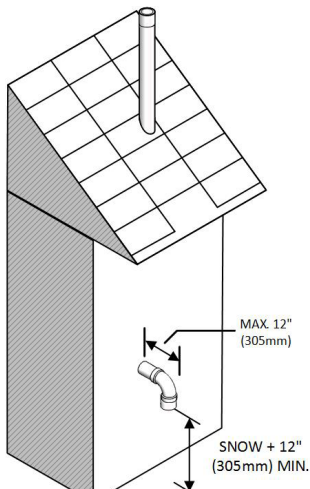

Figure 5a: Rooftop vent terminal configurations
- The air intake pipe may terminate on the side wall of the building as long as the air intake terminal is turned down and the side wall of the building is not exposed to large wind loads i.e.: prevailing wind (see Figure 5a).